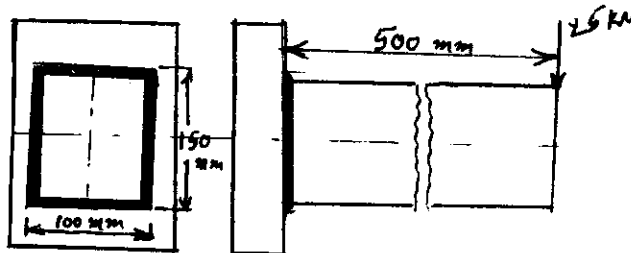

Fig.Q7(b)
- b. A shaft of rectangular cross-section is welded to a support by means of fillet welds as shown in Fig.Q7(b). Determine the size of the welds, if the permissible shear stress in the weld is limited to 75 N/mm^2 . (10 Marks)